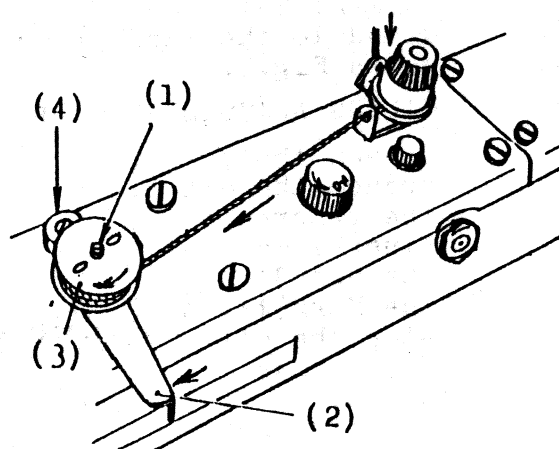

Fig. 10
2. Pull the set lever(2) to the left as far as it will go.
3. Lead the thread as shown Fig. 10, wind the thread on the bobbin(3) for several times as shown by the arrow direction in Fig. 10.